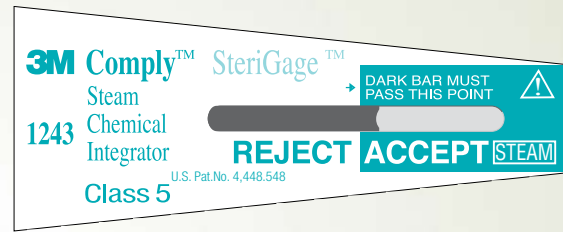
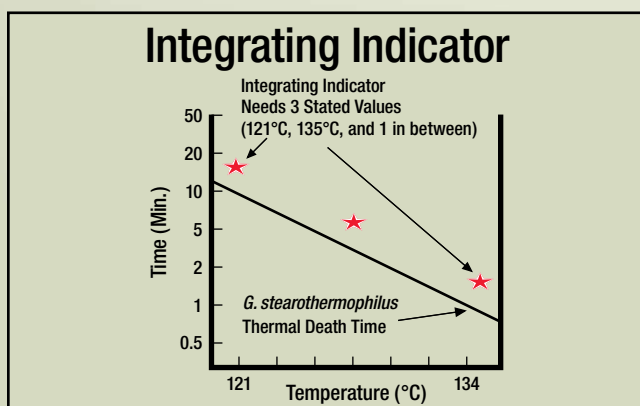

Figure 1: Illustration of endpoints moving-front style chemical indicators
Figure 2: Time/Temperature Response for Class 5 Integrating Indicator Compared to Biological Indicator Response
- **Endpoint:** “point of the observed change as defined by the manufacturer occurring after the indicator has been exposed to specified stated values.”¹ For example, the endpoint for a successful cycle for a moving-front style chemical indicator would be the color bar moving into the “accept” area (see Figure 1).
Yes. 3M has tested its Class 5 Integrating indicator and two different Class 6 Emulating Indicators in several different steam sterilization conditions. The data from these studies was used to generate the graphs in Figures 2 and 3 above. The tests were done in a steam resistometer, the special test vessel that generates ideal saturated steam and is the vessel required for ANSI/AAMI/ISO Compliance Testing. What this testing revealed is that the 3M Class 5 Integrating Indicators do, in fact, correlate to the biological response or thermal death rate curve of *G. stearotherophilus*. Even though the Stated Values of the Class 6 Emulating Indicators were 3.5 minutes at 134°C, their time/temperature response compared to the biological response was faster at lower temperatures.
- A Class 5 Integrating Indicator reacts to all critical variables *and* has **three** Stated Values that correlate to a BI at three time/temperature relationships (see Figure 1). This means a Class 5 integrating indicator will detect failure conditions where the selected exposure temperature is not achieved.
- If a load is being released on the results of a Class 5 Integrating Indicator, it is critical the CI be able to show correct results at lower temperatures that is similar with BI performance (see Figure 1). Figure 2 shows how an Emulating Indicator might compare to BI performance in a Resistometer test vessel. Because Emulating Indicators only require one stated value for time and temperature, at lower temperatures the response of a Class 6 Emulating Indicator can fall below the BI thermal death curve.(see Figure 2)